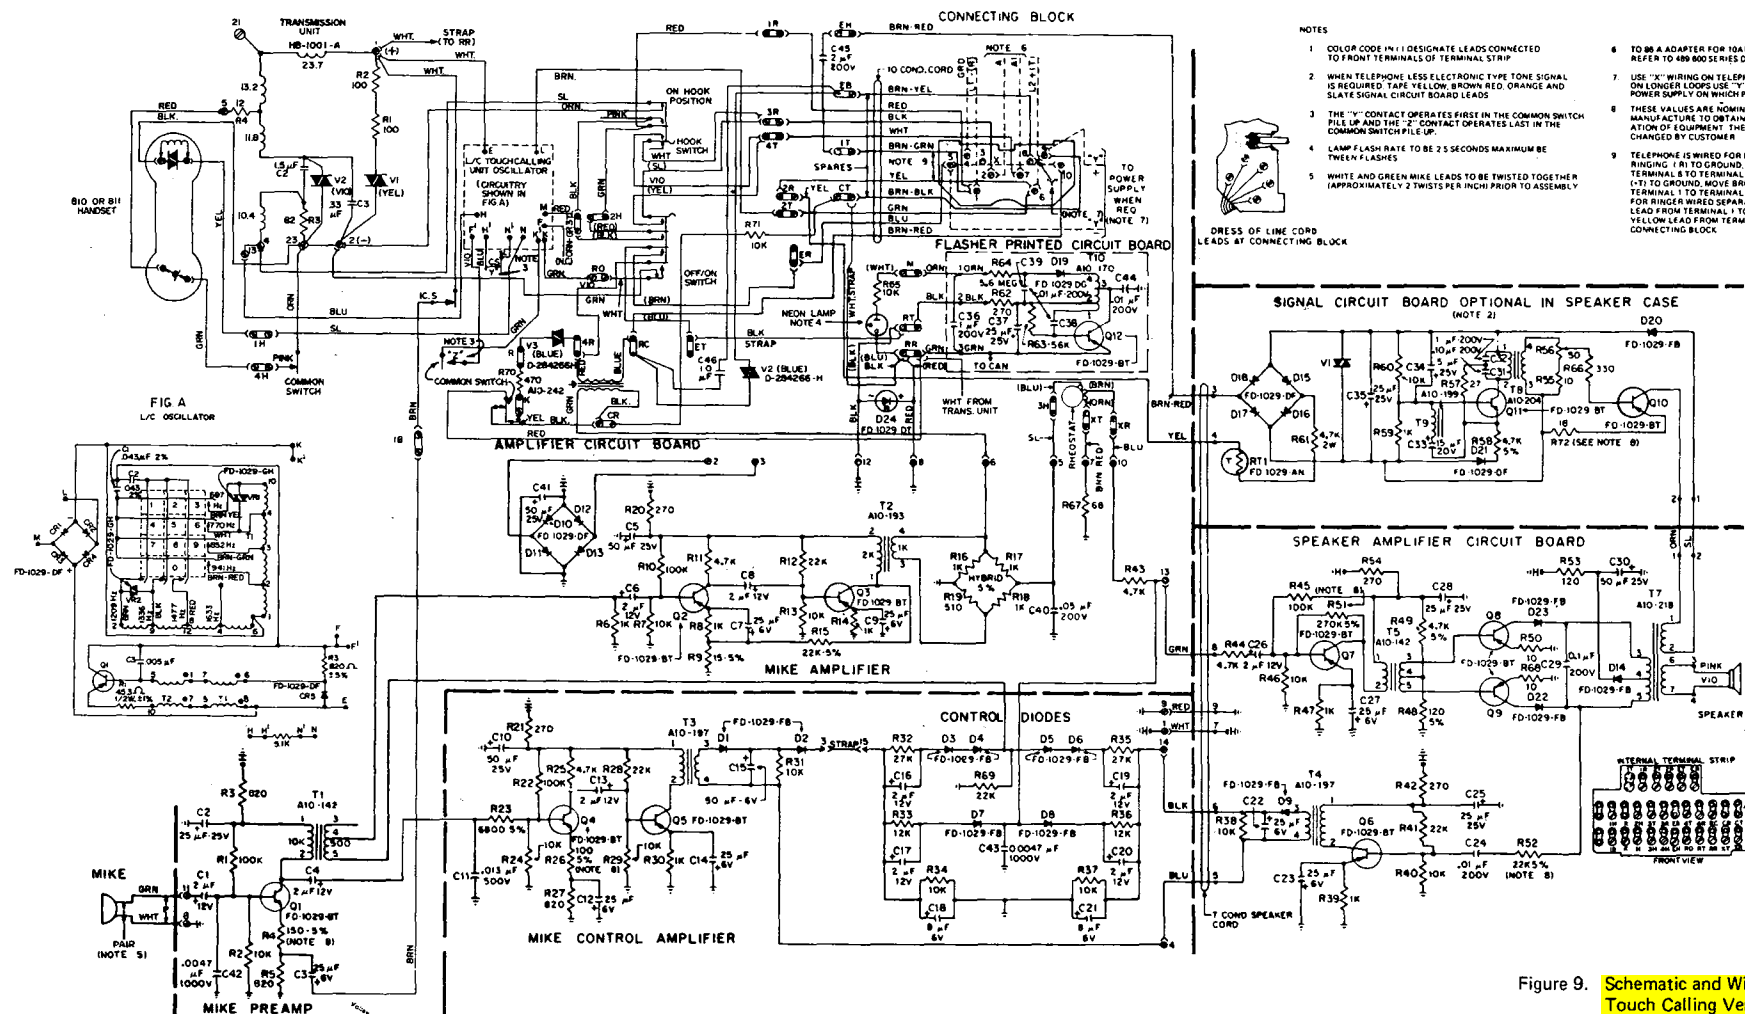

Figure 9. Schematic and Wiring Diagram of 880B Touch Calling Version.
- (1) Remove the lower housing.
- (2) Release the amplifier circuit board by pressing aside the two spring type mounting brackets, and set it aside.
- (3) Disconnect the line cord leads from the terminal strip.
- (4) Release the line cord holder and pull out the old line cord.
- (5) For bridged ringing, refer to the notes in Figure 9 and connect the new line cord leads to the terminal strip as follows:
5.09 Refer to Figure 9 and its appropriate note for divided ringing connections.
6.01 The Type 880B speakerphone (refer to Figure 9 for schematic diagram) contains two separate telephone circuits (basic and electronic). Each circuit contains components peculiar to the mode of operation, and also those which are common to both circuits. Switching between circuits is accomplished through an OFF/ON switch which is interconnected with a standard hookswitch. When the OFF/ON switch is in the OFF position, the hookswitch functions in the same manner as the hookswitch of a standard telephone set. When the OFF/ON switch is in the ON position, the switch serves as a hookswitch in the "off-hook" position. In addition to performing the same functions as a hookswitch, the OFF/ON switch also shunts the transmission network out of the circuit and closes the path between lines L1 and L2 and the rectifier, thus energizing the electronic circuits.